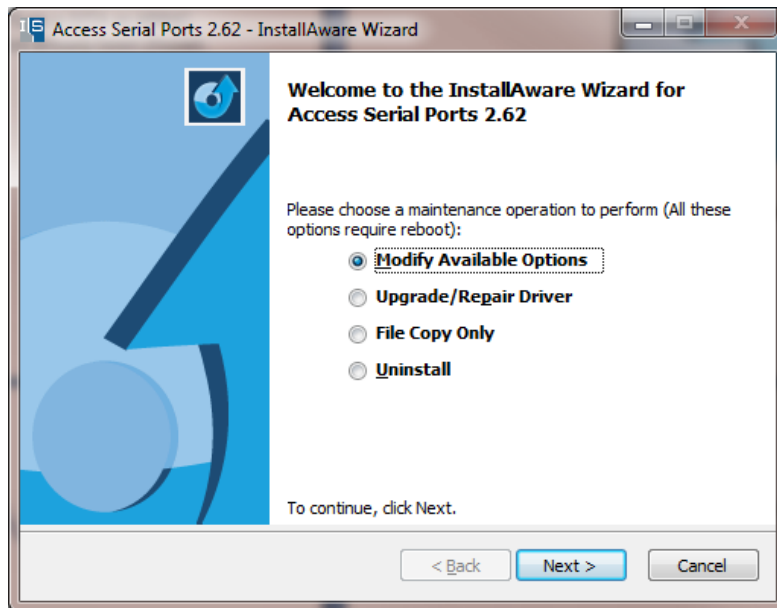

Figure 4
2. The window shown in figure 4 will appear. Select “*Modify Available Options*” and click **Next**.